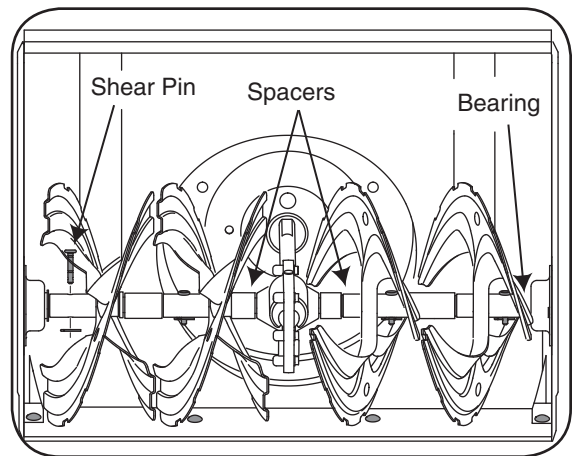

Figure 18
At least once a season, remove the shear pins on auger shaft. Spray lubricant inside shaft, around the spacers. Also lubricate the flange bearings found at either end of the shaft. See Figure 18.
- The augers are secured to the spiral shaft with two shear pins and cotter pins. If the auger should strike a foreign object or ice jam, the snow thrower is designed so that the pins may shear. Refer to Figure 18, on page 16.